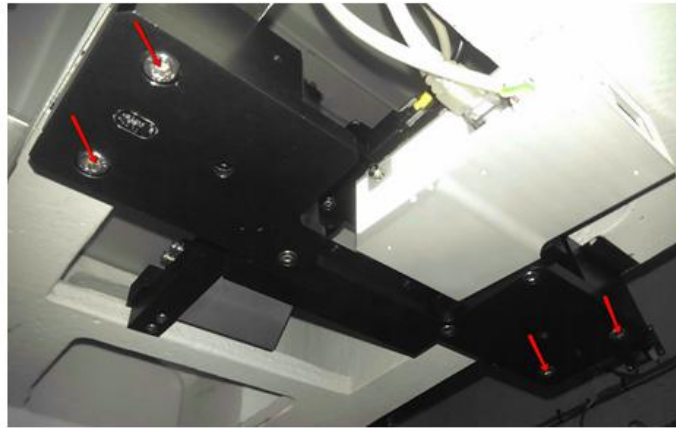

Figure 4 Module removal
- Remove 4 x (M5X12) screws which shown at Figure 4 and remove Front PSP 2 Module from cast ion beam.